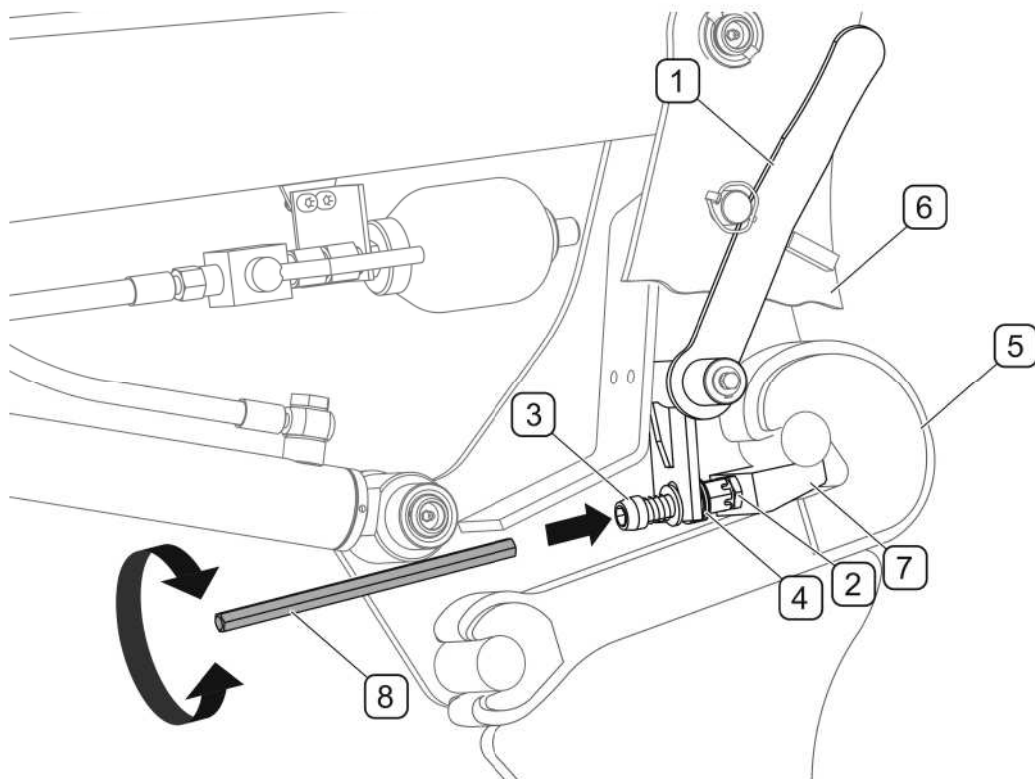

FIG. 5.2A Quick Spring Locks Adjustment
If after connecting the loader support structure slack is detectable on lever (1) in closed position, adjust locks (FIG. 5.2A). Inspection and adjustment is performed for both locks with loader suspended on support frame. To adjust, use a special key (8).